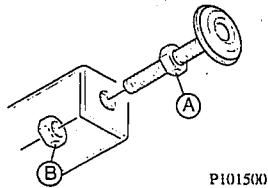

FIGURE 6: INSTALLING LEVELER ON LEG
8) Install one hex nut (A) half-way up on each leveler. Then insert levelers into each leg and turn until they contact the stop nut. Using a second nut (B), thread onto each leveler from inside the leg and tighten (see Figure 6).